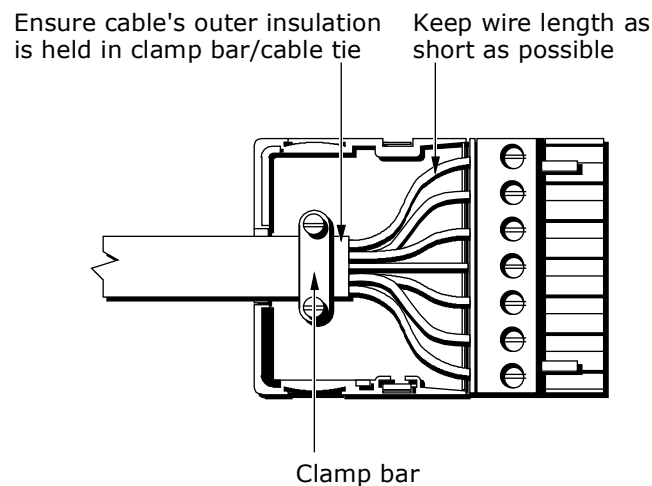

Fig. 8 Correct cable wiring arrangement
- 4) Ensure that the cable outer insulation is held in the clamp bar/cable tie at the connector and tighten the clamp bar screws/cable tie. Refer to Fig. 8.